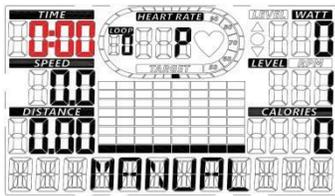

Fig. 16
- (b) To set time, press UP (▲)/DOWN (▼) buttons (Fig. 16). When finish, press “SET” button to go to next step.